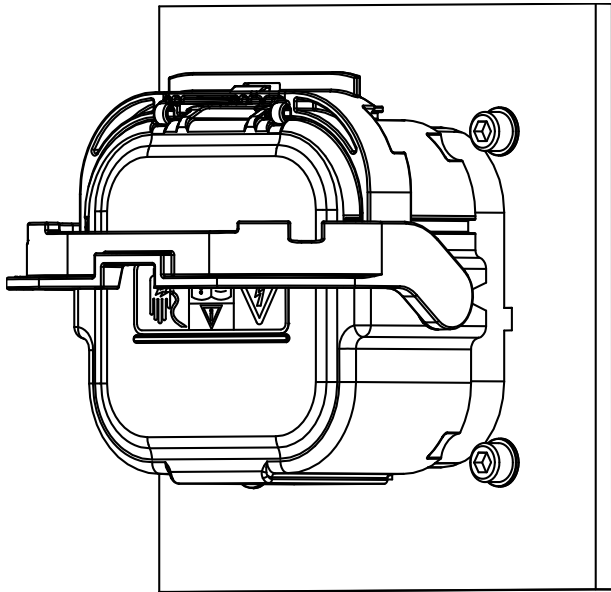

Figure 10
4. Continue to rotate the lever to the end of travel (90° from the pack) as shown in Figure 10.